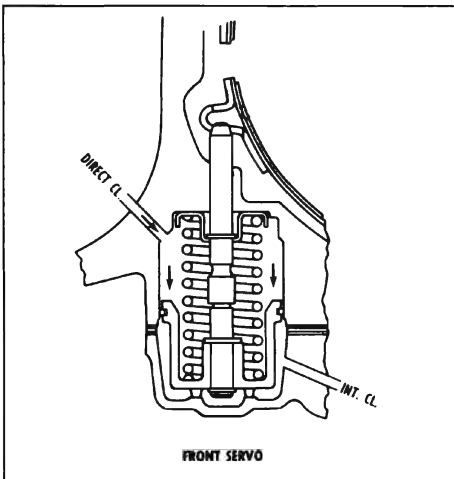

Figure 5-222
- b. During a 2-3 shift, direct clutch oil releases the front band and utilizes the servo as an accumulator for direct clutch apply. See Figure 5-222.